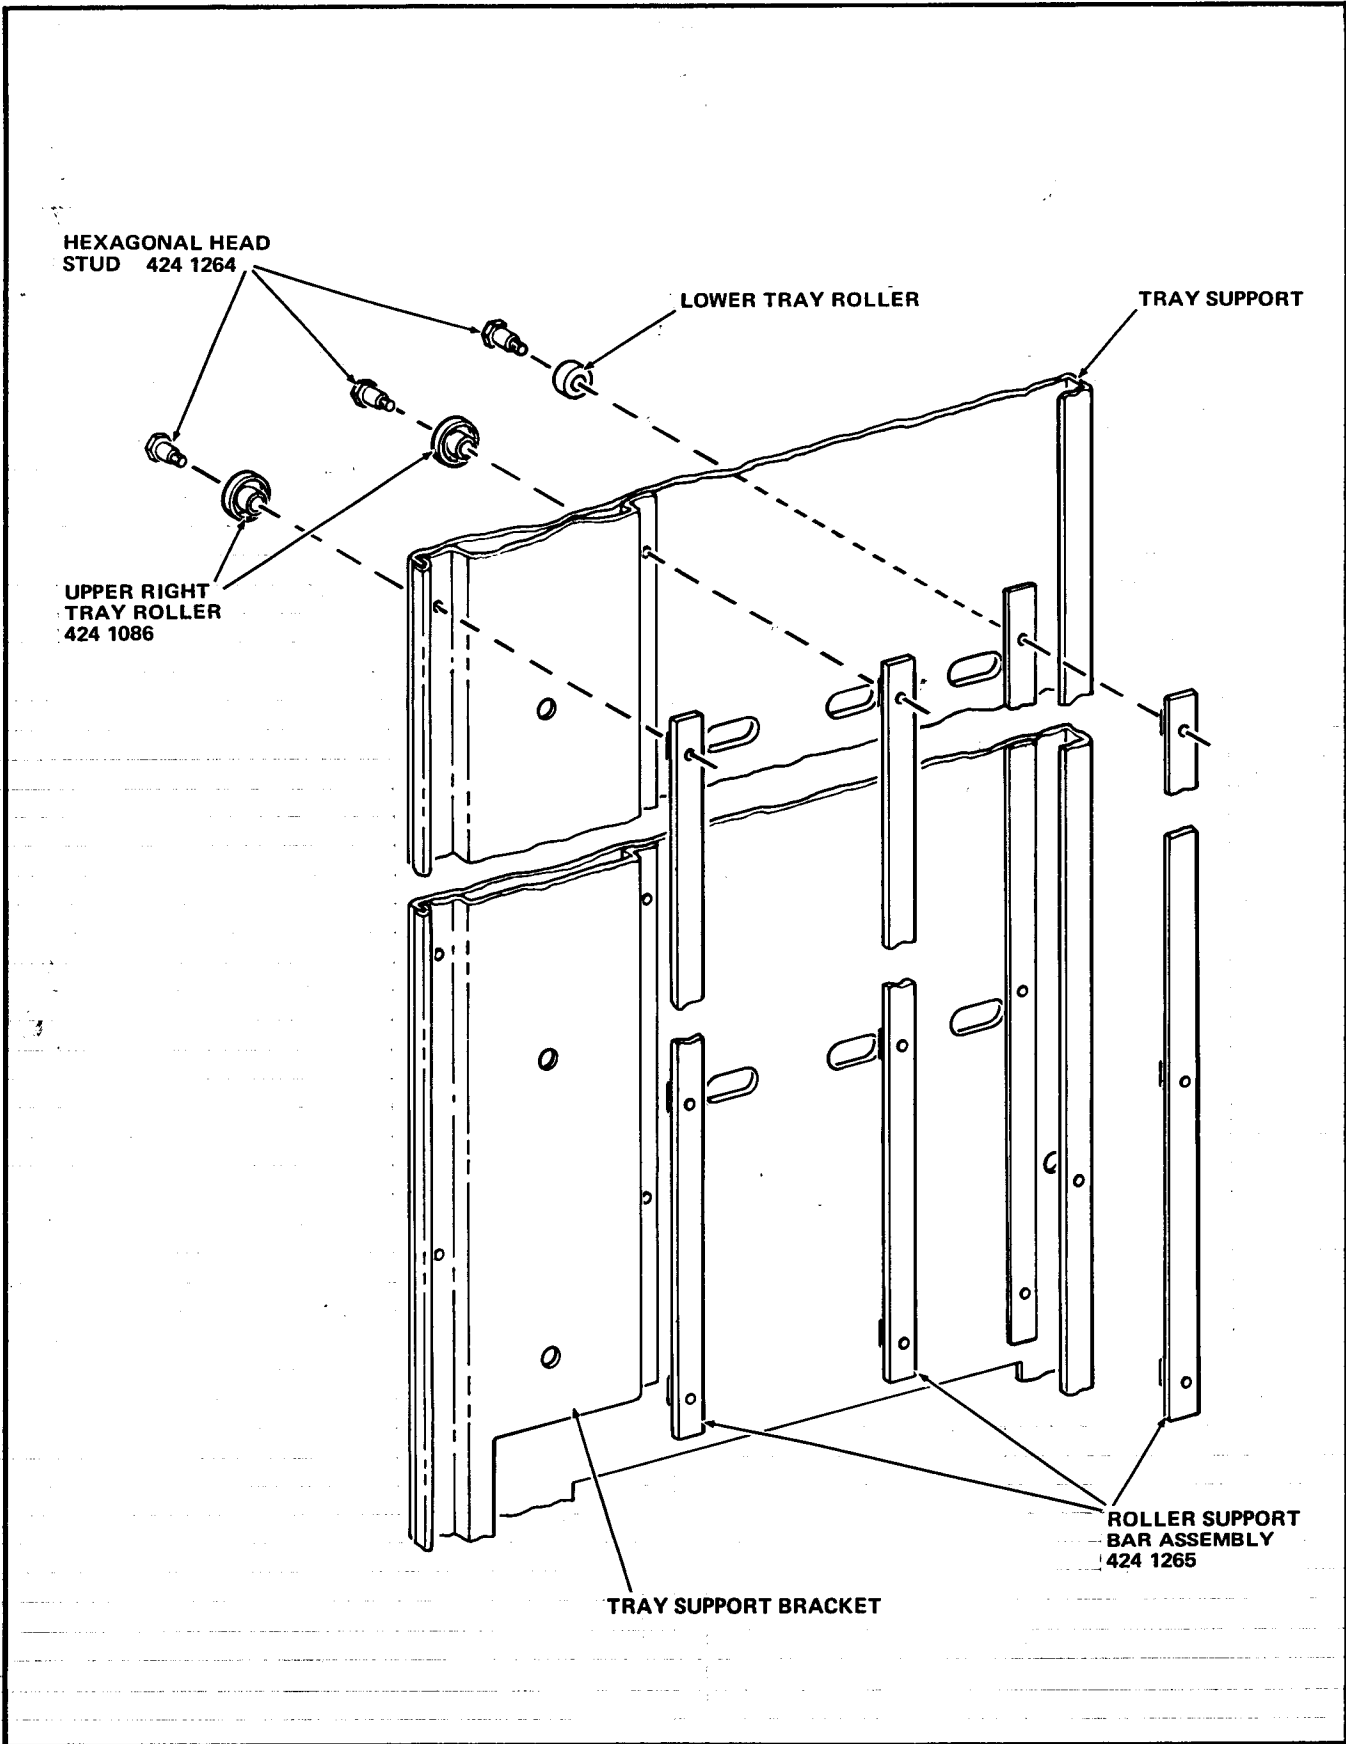

FIGURE 8
9. Position two of the Roller Support Bar Assemblies, Part Number 424-1265, included in the Kit, against the Right Tray Support Assembly so that the four Weld Nuts on the Roller Support Bar Assembly are aligned with the holes in the Tray Support and Tray Support Bracket. See Figure 8.
10. Holding the Roller Support Bar Assembly in place, reinstall the Upper Right Tray Rollers, removed in Step A-27, attaching with the Hexagonal Head Stud, Part Number 424-1264, included in the Kit, and replacing the defective Upper Right Tray Roller with one of the Upper Right Tray Rollers, Part Number 424-1086, included in the Kit. See Figure 8.
11. Using the remaining Roller Support Bar Assembly and Hexagonal Head Studs, reinstall the four Lower Tray Rollers, removed in Step A-27. See Figure 8.